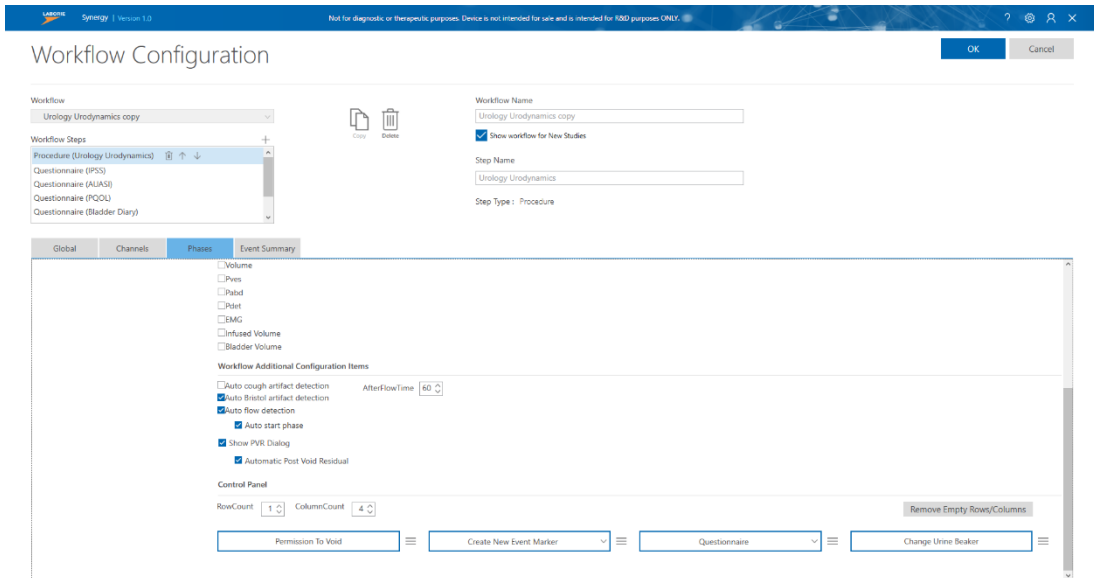

Figure 45: Workflow Configuration Window - Control Panel
1. Click the **Phases** tab on the **Workflow Configuration** Window. Select a phase to customize from those listed. Scroll down to the control panel section located at the bottom of the window. Refer to Figure 45.